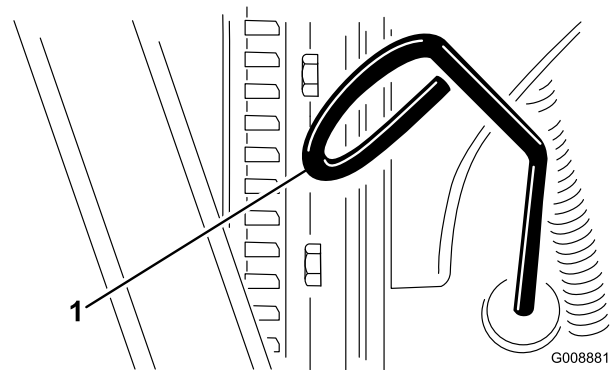

Figure 24
2. Remove the dipstick (Figure 24) and wipe it with a clean rag.